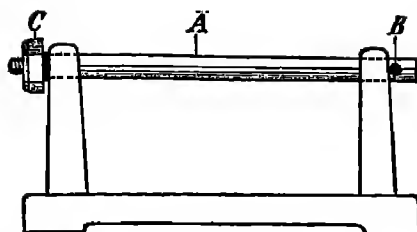

FIG. 212. The great force exerted by a contracting bar of iron.
**Expt. 260.** Use the apparatus shown in Fig. 212. Heat the iron bar *A* very strongly and then fix the cast iron bolt *B* in position, afterwards tightening the screw *C* as much as possible. Allow the bar to cool. As it does so it contracts and the bolt is broken.